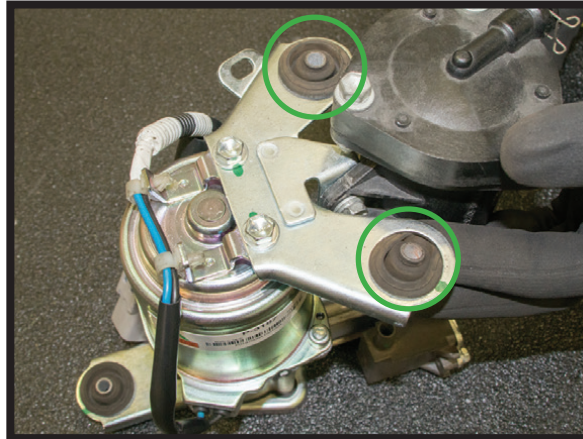

FIGURE 19
4. REINSTALL THE SAVED RUBBER ISOLATORS. (FIGURE 19)